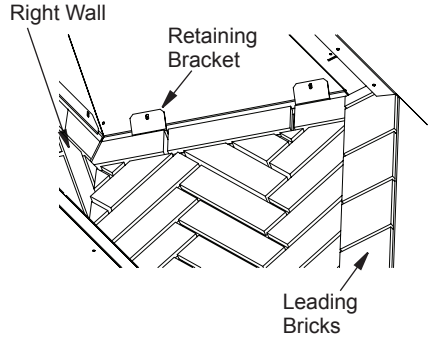

Figure 21 - Installing Side Walls
3. Secure the firebrick wall using two of the side retaining brackets provided. The bracket will slip underneath the metal lip on the top of the wall and screw into the inner dome of the fireplace (Figure 21).